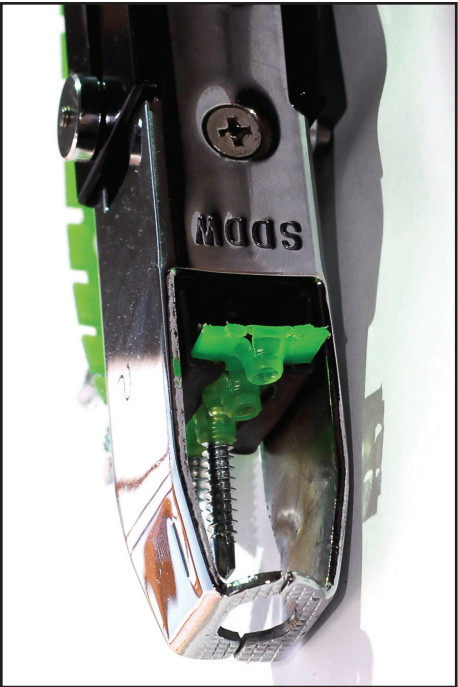

Figure 2
4. Stop with the screw 1 stop before reaching the top/center (screw advances on push stroke). See **Figure 2**.